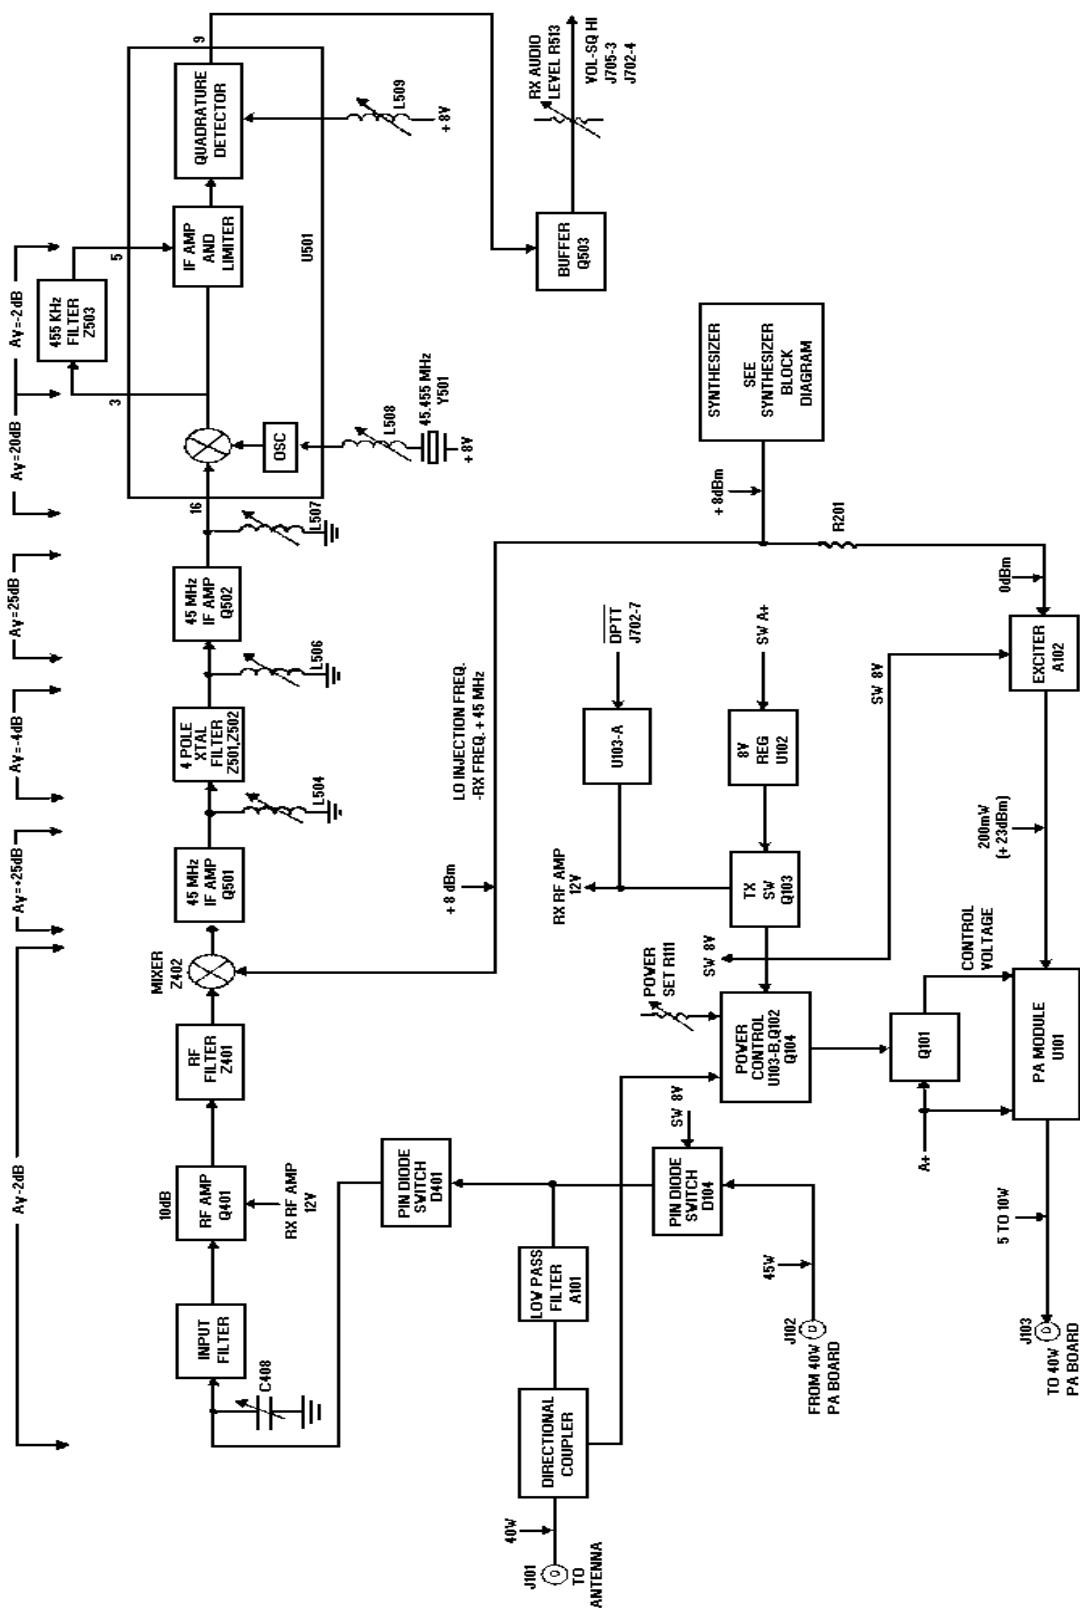
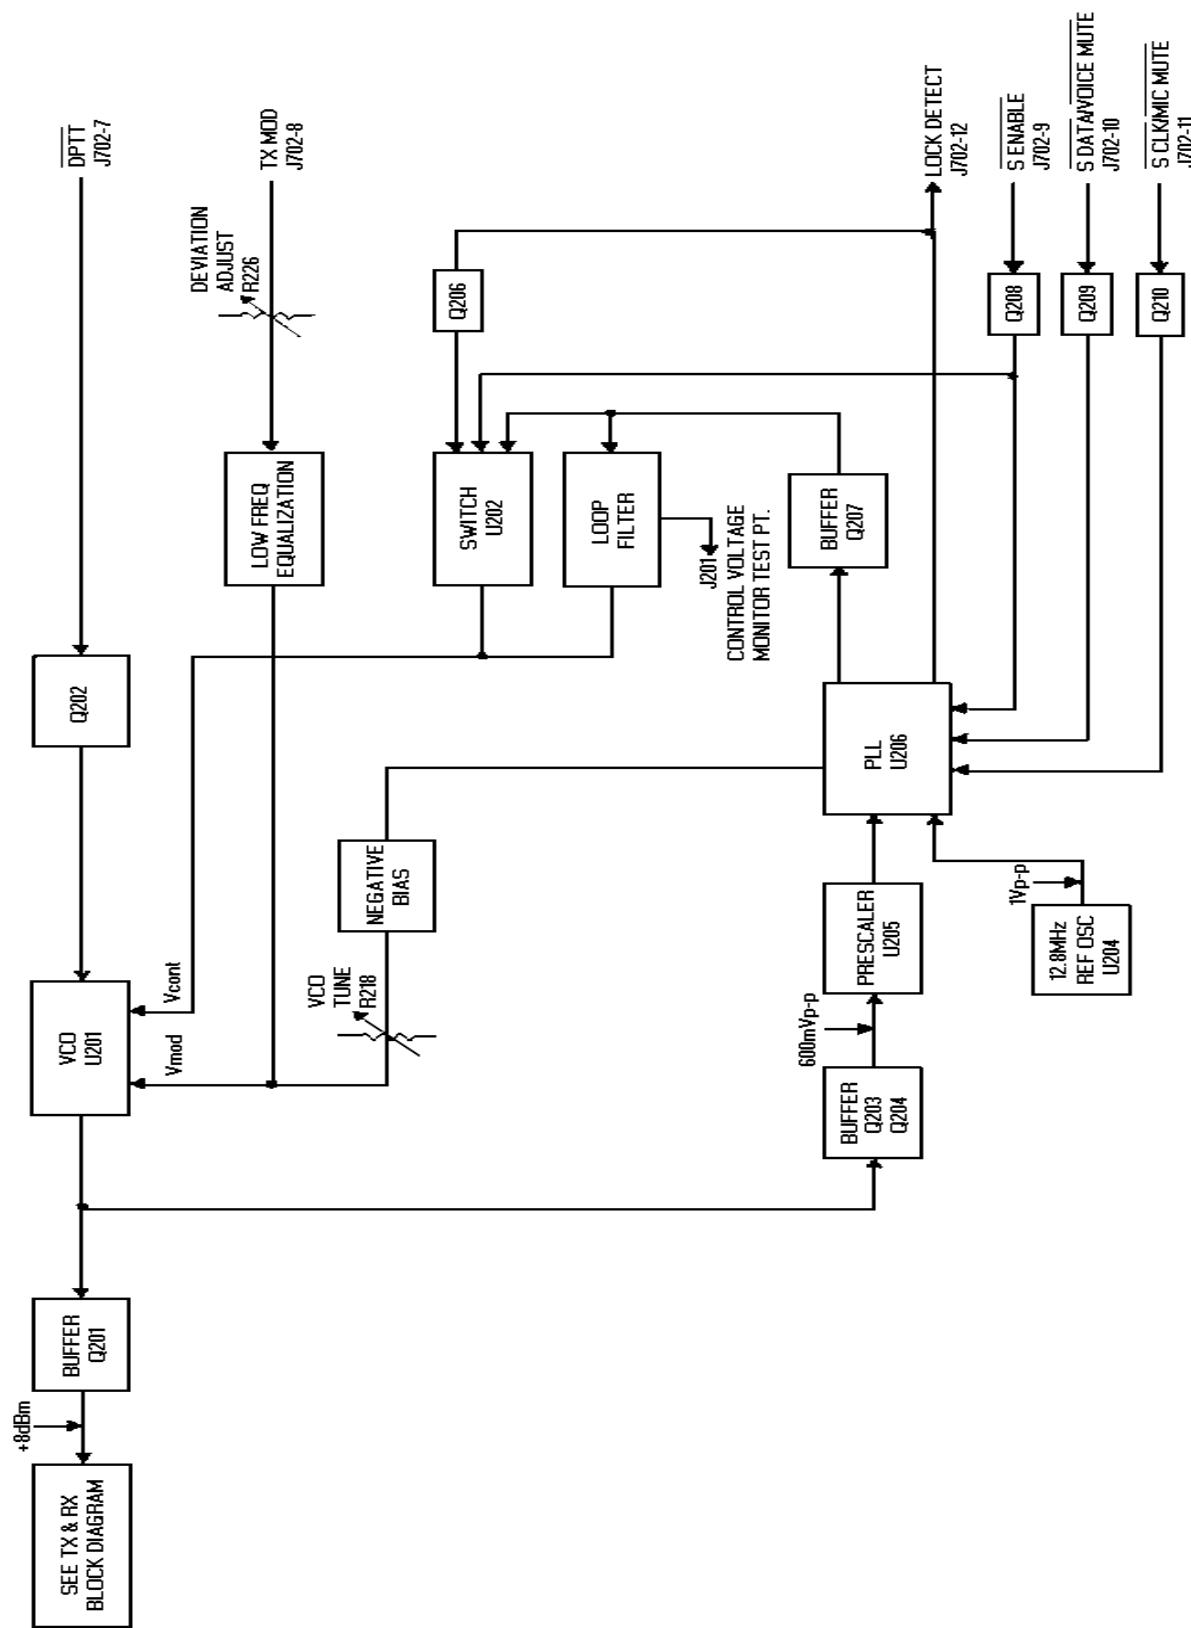

Figure 1 - TX And RX Block Diagram
Figure 2 - Frequency Synthesizer Block Diagram
The RF Board is mounted in the bottom of the frame assembly. Refer to the Combination Manual for the mechanical layout of the radio. Figure 1 provides a block diagram of the receive and transmit circuits. Figure 2 provides a block diagram of the synthesizer.
Figure 1 shows the synthesizer driving the receive mixer at +10 dBm and is attenuated by resistor R202 to +3 dBm for driving the exciter input. Exciter module A102 operates from a switched 8 volt supply. A different exciter module is required for each of the three band splits. No tuning is required. Both input and output ports operate at 50 ohms impedance. The exciter module provides typically 20 dB of gain and 200 mW of output power to drive the power amplifier module.
Most transmit circuit problems can be isolated by checking the TX power gains shown in Figure 1- RX and TX Block Diagram. The 40 watt PA Board may be bypassed by placing a jumper cable between J103 and J102 on the RF Board. The PA module U101 is capable of producing 10 watt output
• Poor SINAD	<ol style="list-style-type: none"> <li>1. Consult Figure 1 - RX and TX Block Diagram for RX stage gains and troubleshoot. NOTE: Use a high impedance RF probe when measuring gain at TP401. A 50-ohm probe may be used if C415 is removed. DO NOT adjust Z401 or Z402 without sweep equipment or the 20 MHz sensitivity bandwidth will be sharply reduced.</li> <li>2. Input cable.</li> <li>3. PIN Diode switch is shorted.</li> </ol>